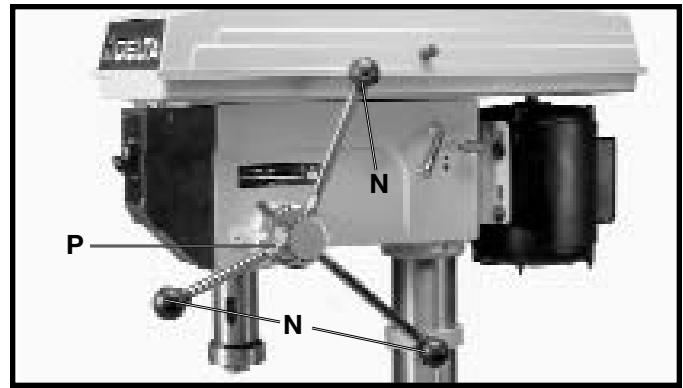

Fig. 7
5. Thread the three pinion shaft handles (N) Fig. 7, into the three holes in the pinion shaft (P) as shown.